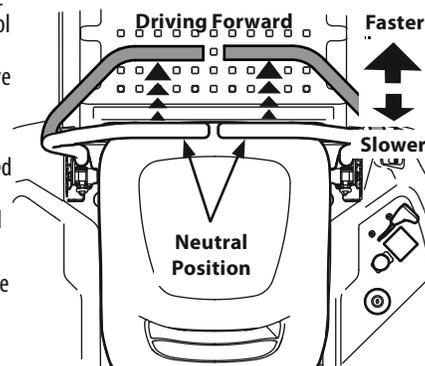

Figure 20
1. Slowly and evenly move both lapbar drive control levers forward. The tractor will start to move forward. See Figure 20.